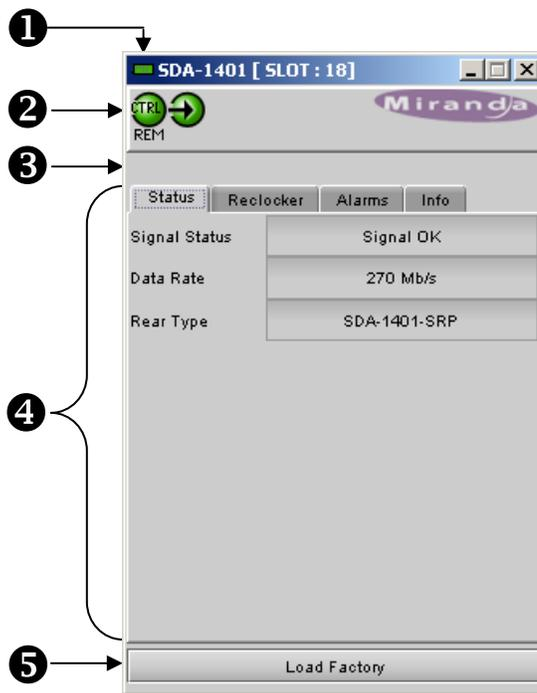

Figure 3.2 SDA-1401 iControl graphic interface window
The basic window structure for the SDA-1401 is shown in figure 3.2. The window identification line gives the card type (*SDA-1401*) and the slot number where the card installed in its Densité frame. On the left is a card status icon ❶ showing the overall alarm status. Its color in response to detected alarms is programmable; see section 3.4.5 on page 9.